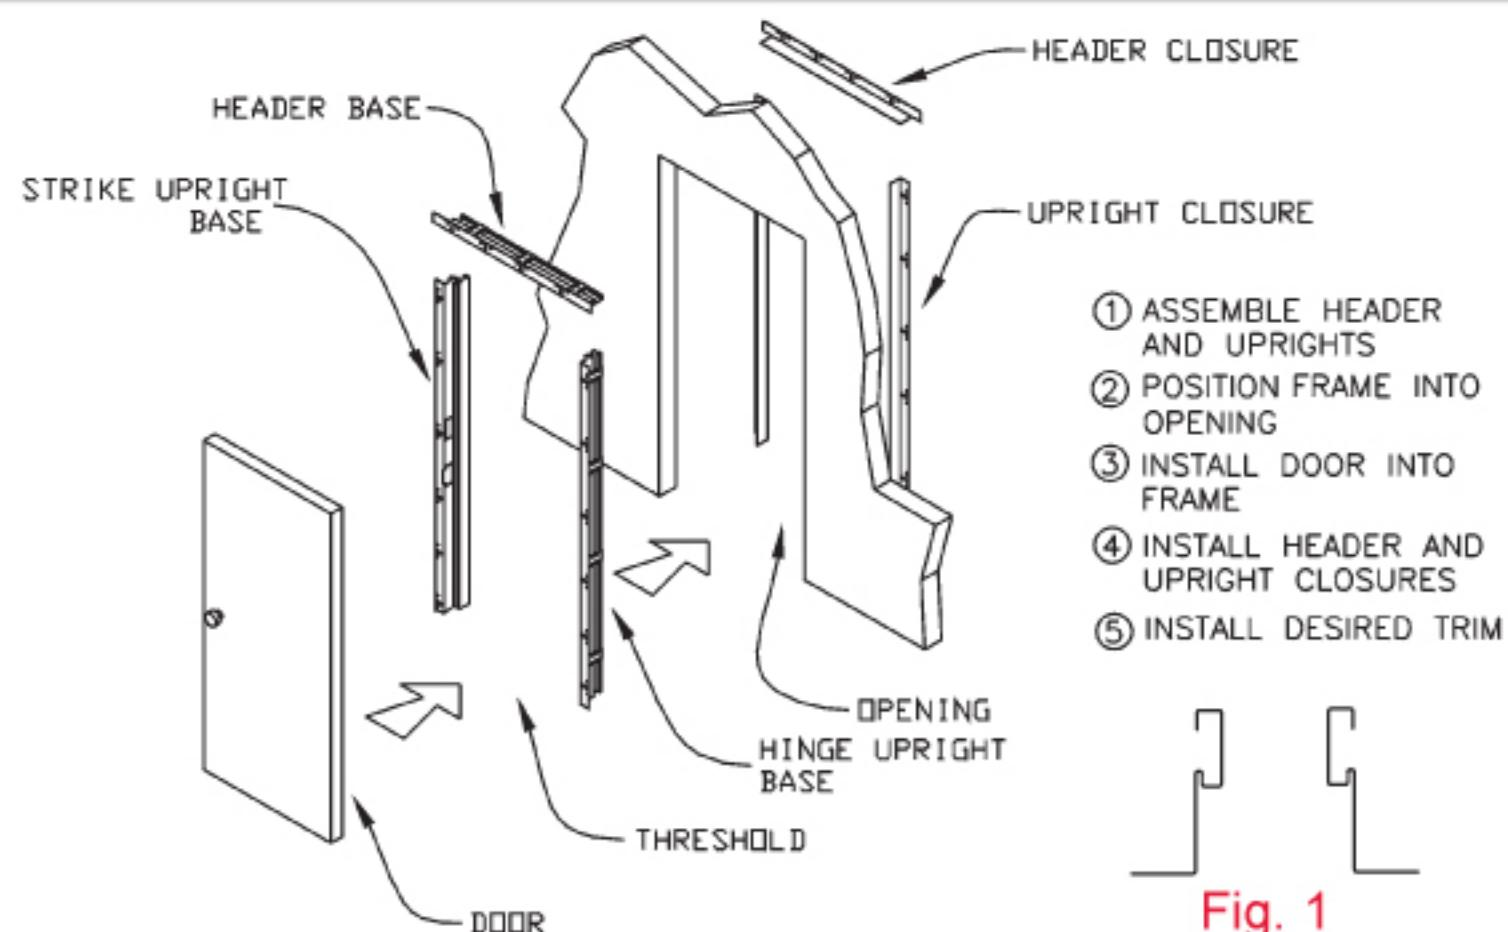

Fig. 1
- 2** Assemble base side of frame (which consists of hinge jamb, strike jamb, and header) by placing the face or nailing flange face down on a flat surface (Fig. 1). Insert tabs which are located on the ends of the jambs into the slots in the header. Bend tabs outward and down to secure tight fit between the jambs and header (Fig. 2). Stand frame upright and place into rough opening. **Note:** If using threshold, install prior to placement into rough opening.